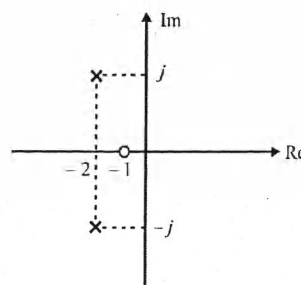

Fig. 8
19. The pole zero plot of open transfer function system shown in Fig. 8 and the steady state gain is 2, the transfer function $G(s)$ will be given by